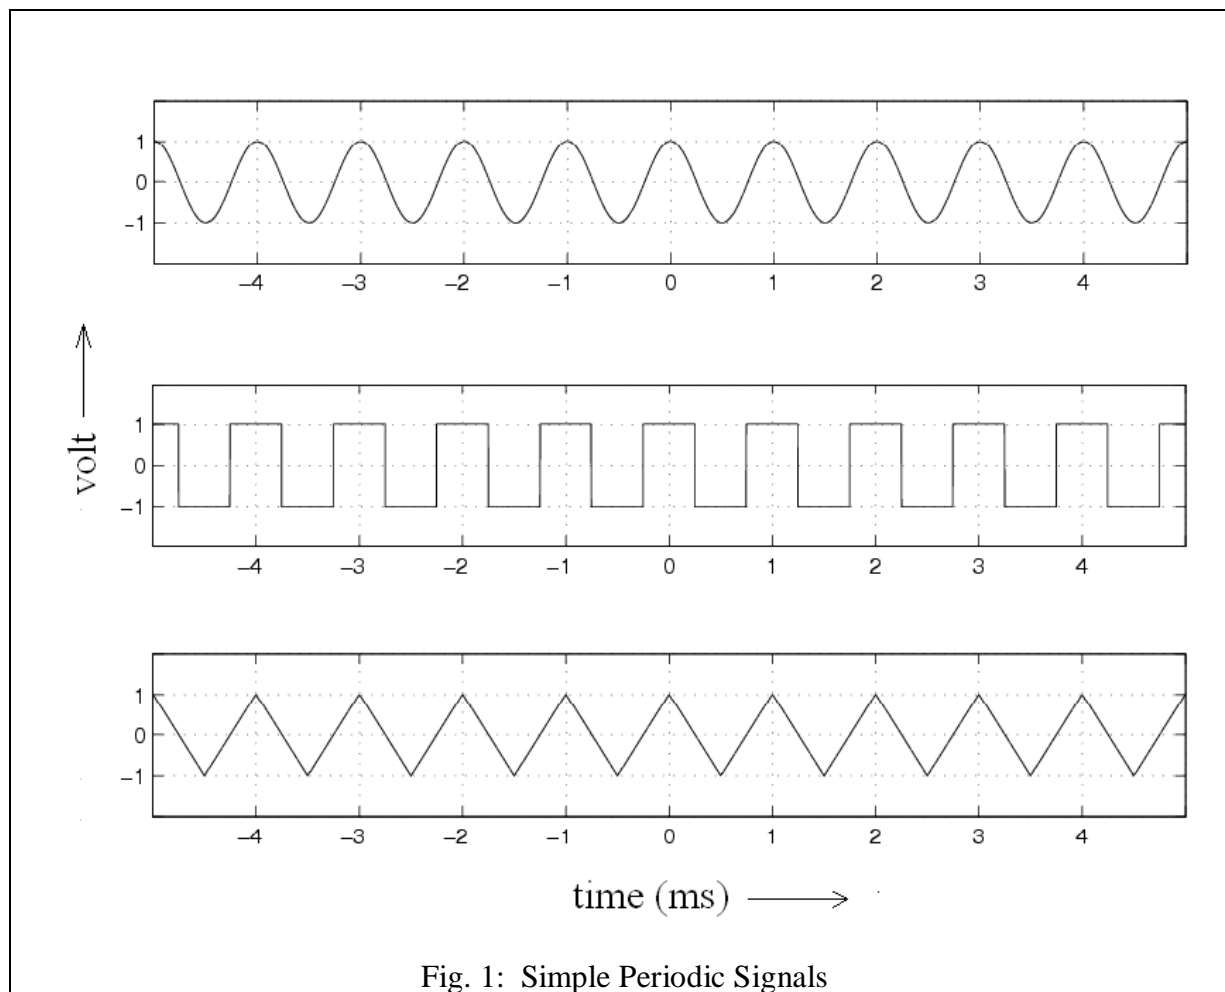

Fig. 1: Simple Periodic Signals
5. Consider the signals shown in Figure. 1. Each has a period of 1ms.